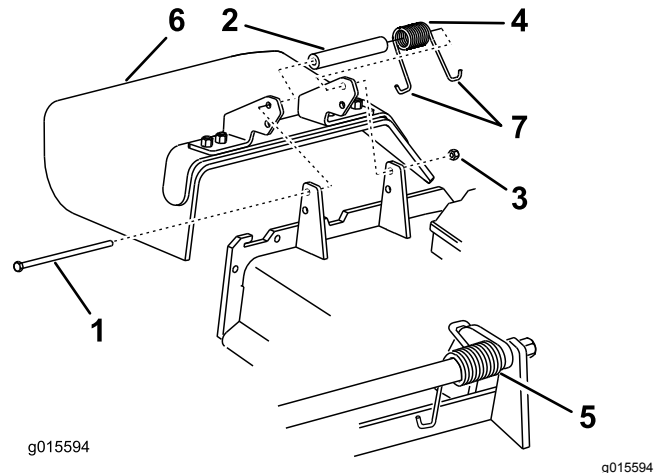

Figure 88
1. Remove the locknut, bolt, spring, and spacer holding the deflector to the pivot brackets (Figure 88).
2. Remove the damaged or worn grass deflector (Figure 88).
Note: Make sure that 1 J-hook end of the spring is installed behind the deck edge before installing the bolt as shown in Figure 88.
6. Place 1 J-hook end of the spring around the grass deflector (Figure 88).